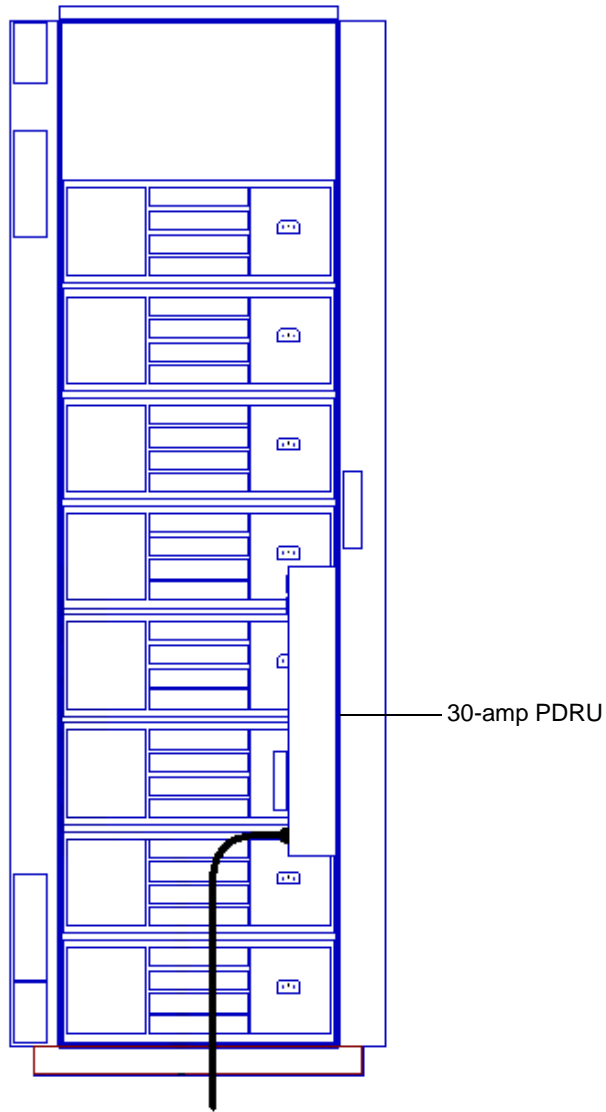

Figure 16 PDRU Placement in 1.6-Meter Rack
- In a full rack, install HP PDRUs (HP E7681A and E7682A) directly behind disk systems. Hinges allow the PDRU to swing aside for access to obscured power supplies. (See sample installation in Figure 16.)